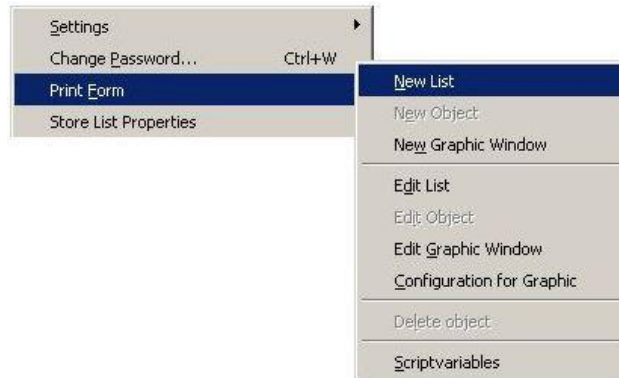

Figure 45: Functions with Additional Functional Range
- 4) Move your cursor (*Please refer to the Figure 45*) to the additional menu and left-click on one of the functions offered.